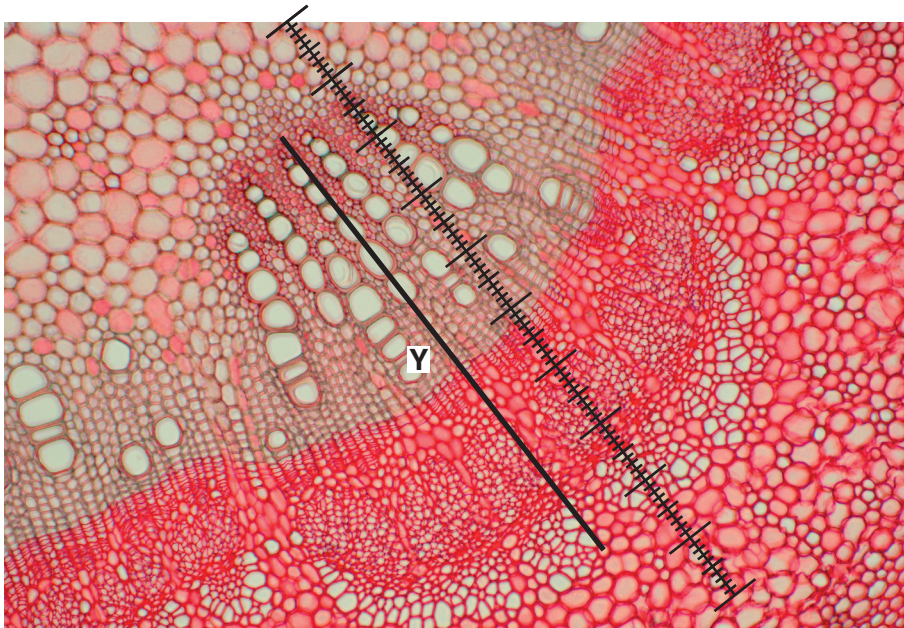

Fig. 2.2
- (b) Fig. 2.2 is a stained transverse section through part of the stem of a different plant species. You are not expected to be familiar with this specimen.
Fig. 2.2 shows a photomicrograph taken using the same microscope with the same lenses as the student.
Use the calibration of the eyepiece graticule division and Fig. 2.2 to calculate the actual length of the vascular bundle, shown by line **Y**.
- (c) The plant in Fig. 2.2 produces fruit that are an important source of food for many animals in the ecosystem in which they grow.